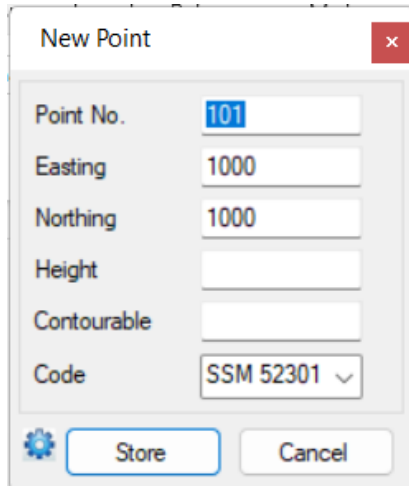

Figure 8 - Starting point for the job
- Select the **NEW LAYER** button and enter the layer REFERENCE. Set its colour to 4 – Red. See figure 8 below.